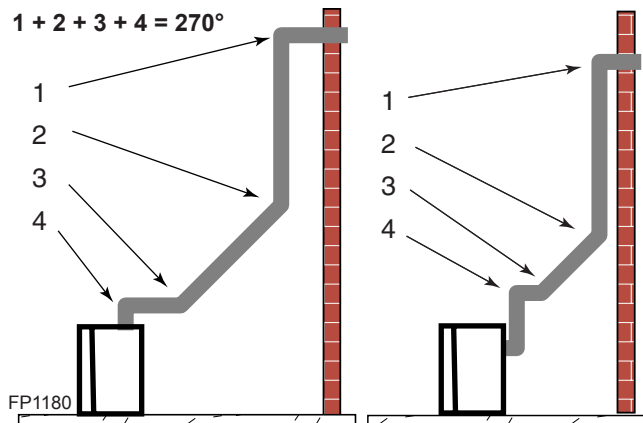

Figure 42 -
- The maximum number of elbow degrees in a system is 270°. *Figure 42*